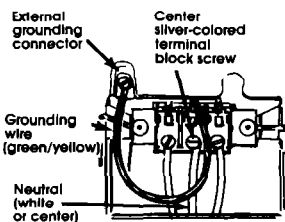

Figure 8
3. Connect the neutral wire of the flexible armored or nonmetallic sheathed copper power supply cable to the center, silver-colored terminal of the terminal block. Connect the other wires to the outer terminals. See Figure 8. For connecting plain-end wires, see "Direct wire connection," Panel B.